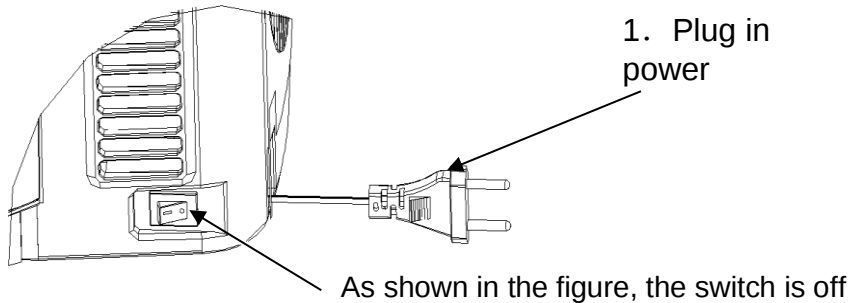

FIGURE 10
11. Cover the top cover (see the label on the top cover for details). Set the power switch to "-" to start the power supply of the beer machine, and the beer machine starts to work (set the power switch to 0 to turn off the power supply) (as shown in Figure10).